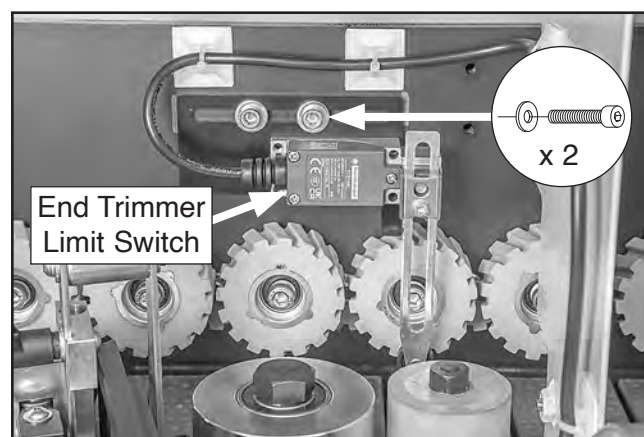

Figure 131. Location of end trimmer switch and adjustment screws.
2. Loosen (2) adjustment screws shown in **Figure 131**.